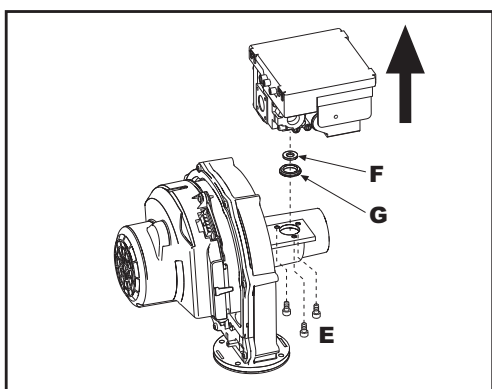
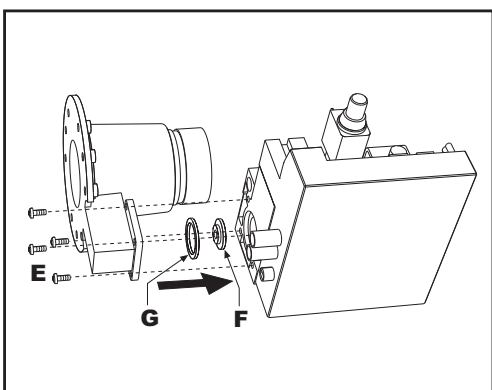

fig. 32 - model ENERGY TOP W 70 - W 80
fig. 33 - model ENERGY TOP W 125
- Undo the fixing screws "E" (fig. 32 model ENERGY TOP W 70 - W 80 and fig. 33 model ENERGY TOP W 125) and remove the gas valve.
- Replace the gas nozzle "F" (see fig. 32 for the model ENERGY TOP W 70 - W 80 and fig. 33 the model ENERGY TOP W 125) with the one contained in the conversion kit, positioning it inside the seal "G". Refit the parts and check the tightness.